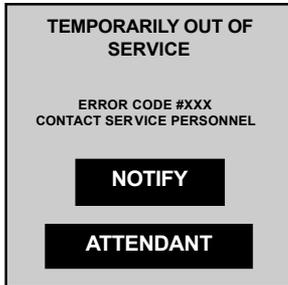

Fig. 7-1. The 'Out of Service' screen is displayed if the terminal detects an error condition.
An error detected during a status check will place the ATM in an 'Out of Service' mode of operation and display an error message screen, as shown in Figure 7-1.
4. If the Out of Service screen (Figure 7-1) appears again, look up the error code in Table 8-1 (pages 8-5 through 8-7), Error Codes / Recovery Procedures. Note the reference number for the recommended Error Recovery Procedure.